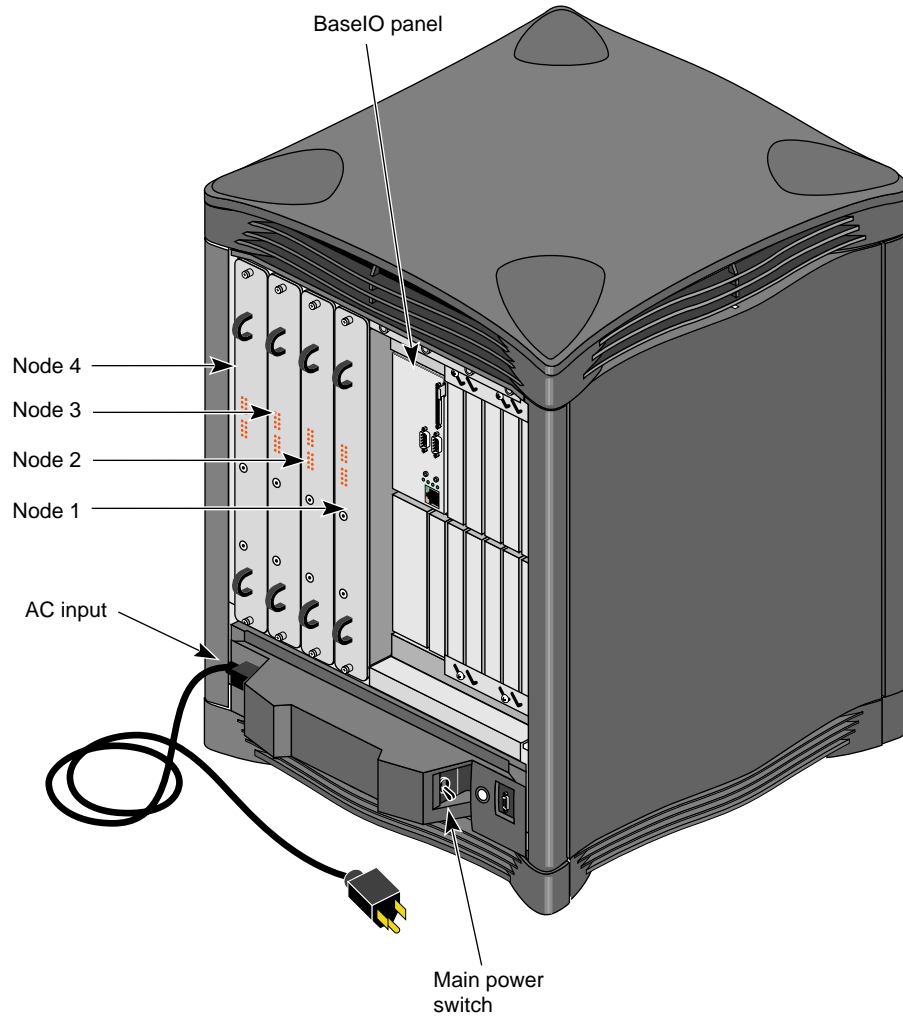

Figure 2-5 Component and Control Locations on the Back
- The system node board(s). See Figure 2-5.